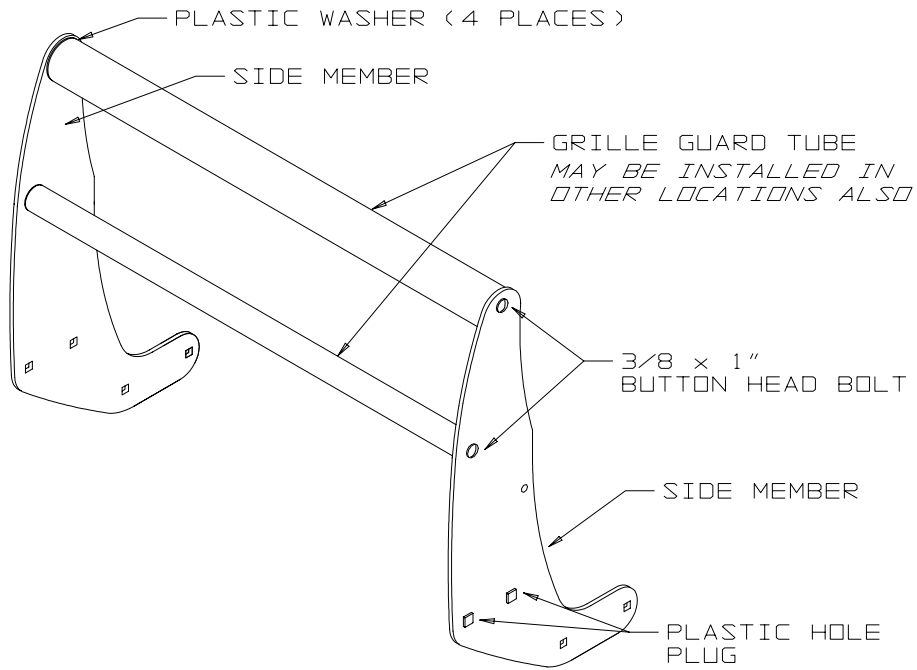

Figure 3
- **Stainless Kits do not use the plastic washers between the Side Members and Grille Guard Tubes noted in Figure 3. The tubes and Side Members are bolted directly together.**
- **Stainless Kits do not use the plastic hole plugs noted in Figure 3.**
5. Refer to **Figures 3 & 4** and install the side members on the outsides of the frame extensions.
6. If the Trans4mer is being installed as a grille guard and a winch is not being mounted at this time, install the tubes in any desired position as shown in **Figure 3**. If the Winch Carrier or the Receiver Kit is being added, remove factory license bracket and install a tube only in the top position and then refer to the specific instructions packaged with those items.